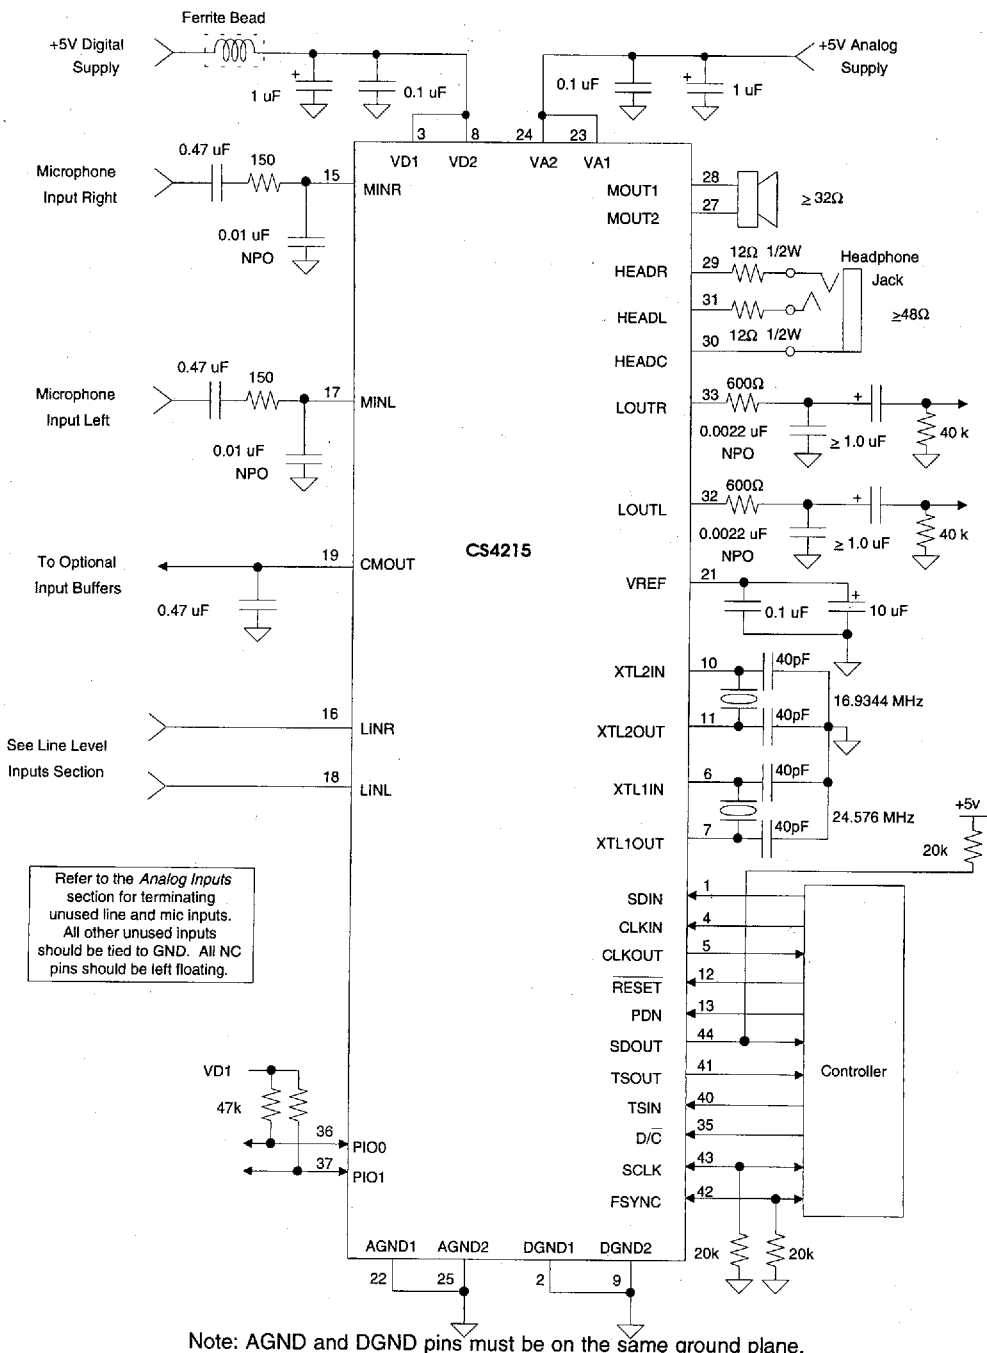

Figure 1. Recommended Connection Diagram
Figure 1, the recommended connection diagram, shows examples of the external analog circuitry recommended around the CS4215. An internal multiplexer selects between line level inputs and microphone level inputs.
LOUTR and LOUTL output an analog signal, centered around the CMOUT voltage. The minimum recommended load impedance is 8 k Ω . Figure 1 shows the recommended 1.0 μ F DC blocking capacitor with a 40 k Ω resistor to ground. When driving impedances greater than 10 k Ω , this provides a high pass corner of 20 Hz. These outputs may be muted.
Two external crystals may be attached to the XTL1IN, XTL1OUT, XTL2IN and XTL2OUT pins. Use of an external crystal requires additional 40 pF loading capacitors to digital ground (see Figure 1). XTAL1 oscillator is intended for use at 24.576 MHz and XTAL2 oscillator is intended for use at 16.9344 MHz, although other frequencies may be used. The gain of the internal inverter is slightly higher for XTAL1, ensuring proper operation at >24 MHz frequencies. The crystals should be parallel resonant, fundamental mode and designed for 20 pF loading (equivalent to a 40 pF capacitor on each leg). If XTAL1 or XTAL2 is not selected as the master clock, that particular crystal oscillator is powered down to minimize interference. If a crystal is not needed, the XTL-IN pin should be grounded. An example crystal supplier is CAL Crystal, telephone number (714) 991-1580.